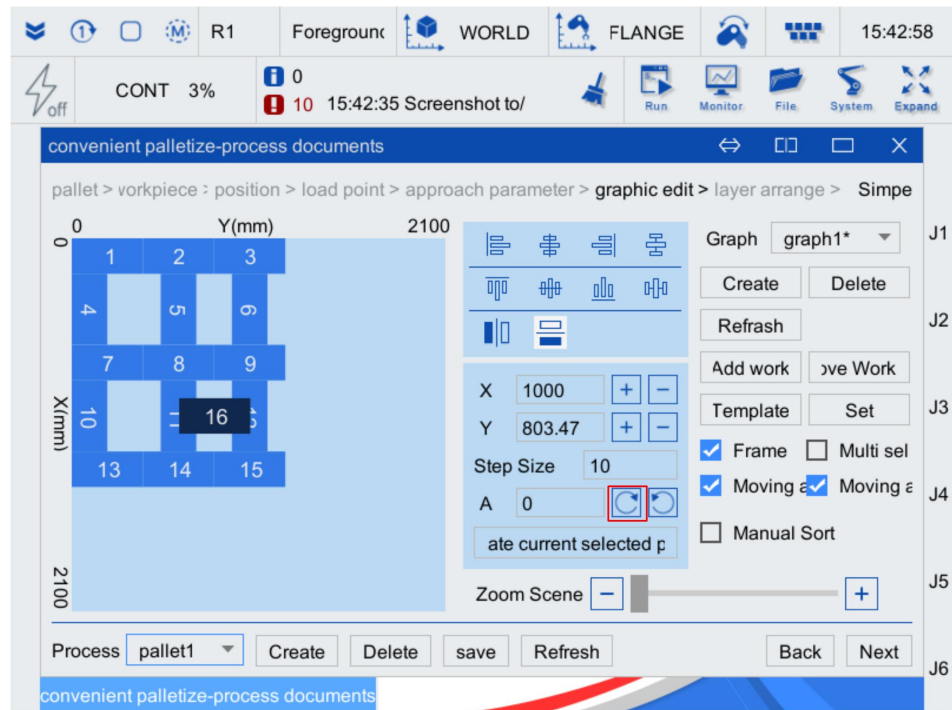

Figure 3-25 Diagram of workpiece dragging effect
Step8. Drag workpiece 16 between workpiece 11 and workpiece 12. As shown in Figure 3-25.